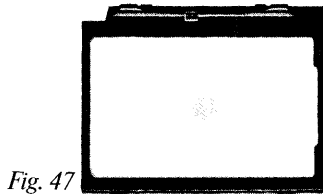

Fig. 47
- *Universal focusing screen with central diagonal split image rangefinder within a microprism circle and surrounded by a matt screen brightened by a fresnel lens (fig. 47). This screen is a general purpose screen but with the advantage of the grid lines and is especially useful where composition is an important element, e.g. architectural photography with horizontal and vertical lines. It is also suitable for lenses with low light transmission or when using macro accessories.*